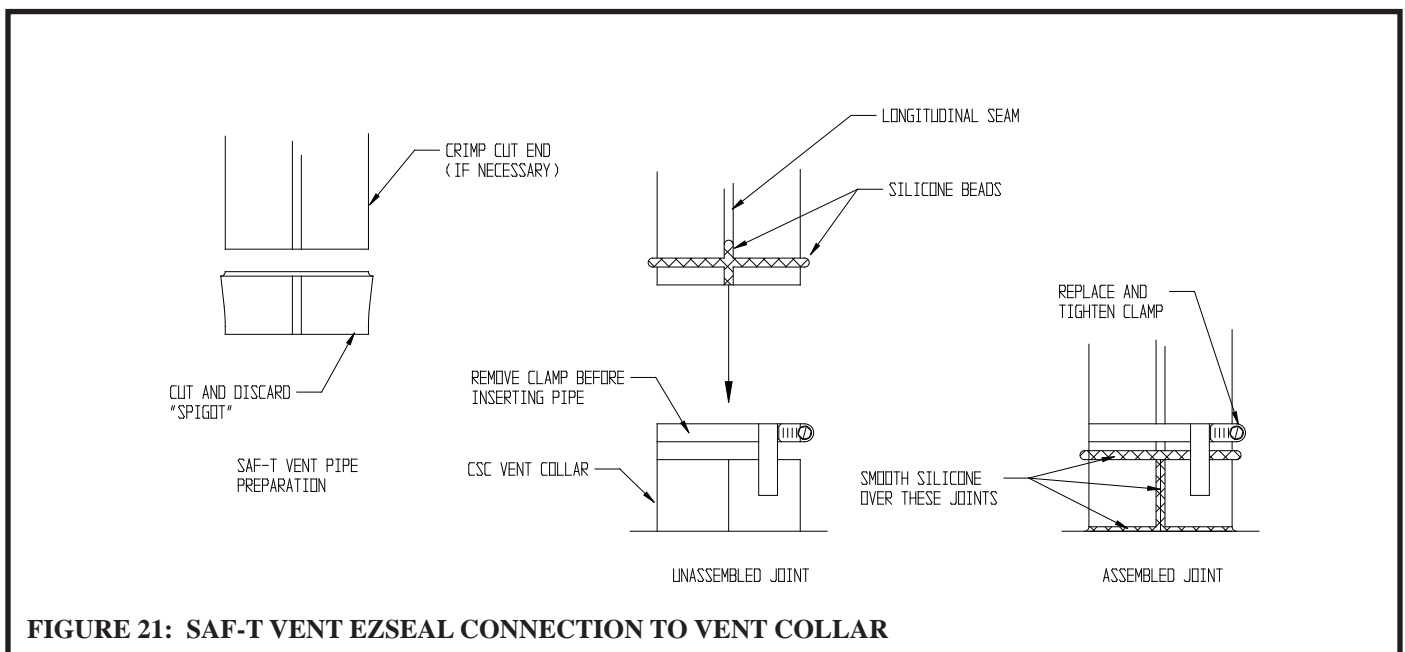

FIGURE 21: SAF-T VENT EZSEAL CONNECTION TO VENT COLLAR
- b) Connection to Boiler – Start assembly of the vent system at the boiler. Remove the hose clamp shipped on the CWD vent collar. Bend the three hose clamp tabs on this collar outward slightly. Cut the male “spigot” off of the first piece of pipe (Fig 21). If necessary, crimp the cut end of the pipe so that it can be inserted at least 1” into the collar. Clean the exterior of the male end of the first piece of pipe and the inside of the vent collar on the boiler with an alcohol pad. On the male end of the pipe, apply a ¼” wide bead of high temperature silicone approximately ½ inch from the male end of the pipe. Also apply a ¼” bead of silicone along the first 2 ½” of the longitudinal weld. Insert the male end of the pipe into the boiler vent collar until it bottoms out. Apply an additional bead of silicone over the outside of the joint and smooth out (Fig 21). Apply silicone over the seams in the vent collar. Replace and tighten the clamp on the vent collar.